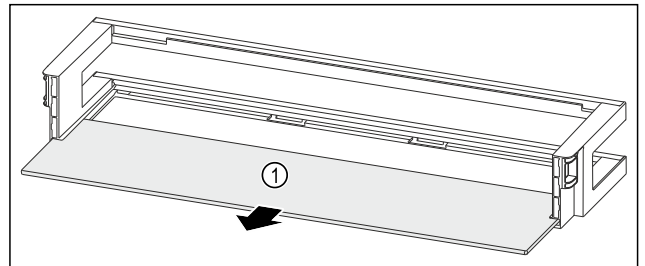

Fig. 185 Door rack with shelf
- ▶ Remove the shelf Fig. 185 (1).